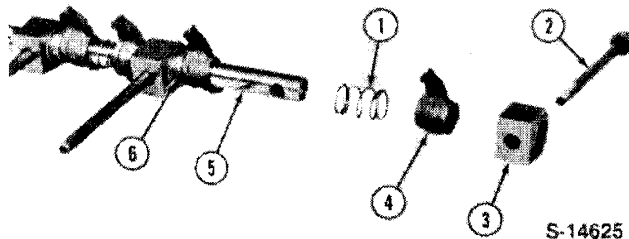

Figure 9
5. Remove the cylinder head bolts which pass through the rocker shaft supports and slide the rocker shaft components from the shaft, Figure 9.